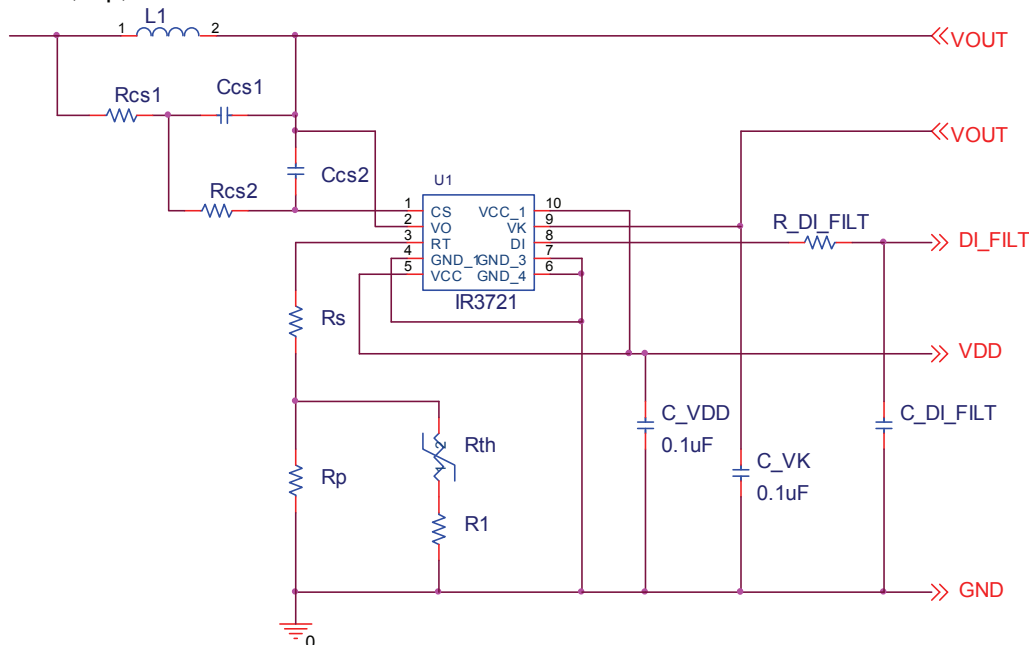

Figure 7 Example schematic
Refer to figures 7 through 11 for guidance laying out the IR3721. These guidelines also apply to resistive current sensing. The following guidelines will minimize sources of noise and error, which is required because millivolt level signals correspond to amps of inductor current.
- Refer to figures 7 through 11 for guidance laying out the IR3721. These guidelines also apply to resistive current sensing. The following guidelines will minimize sources of noise and error, which is required because millivolt level signals correspond to amps of inductor current.